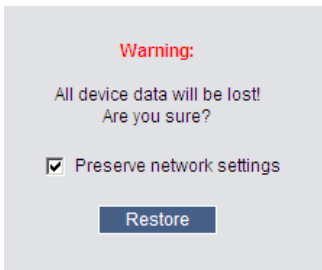

Figure 37 Restore factory settings
1. From the menu select **Restore Factory Settings**. **Restore Factory Settings** appears see Figure 37.